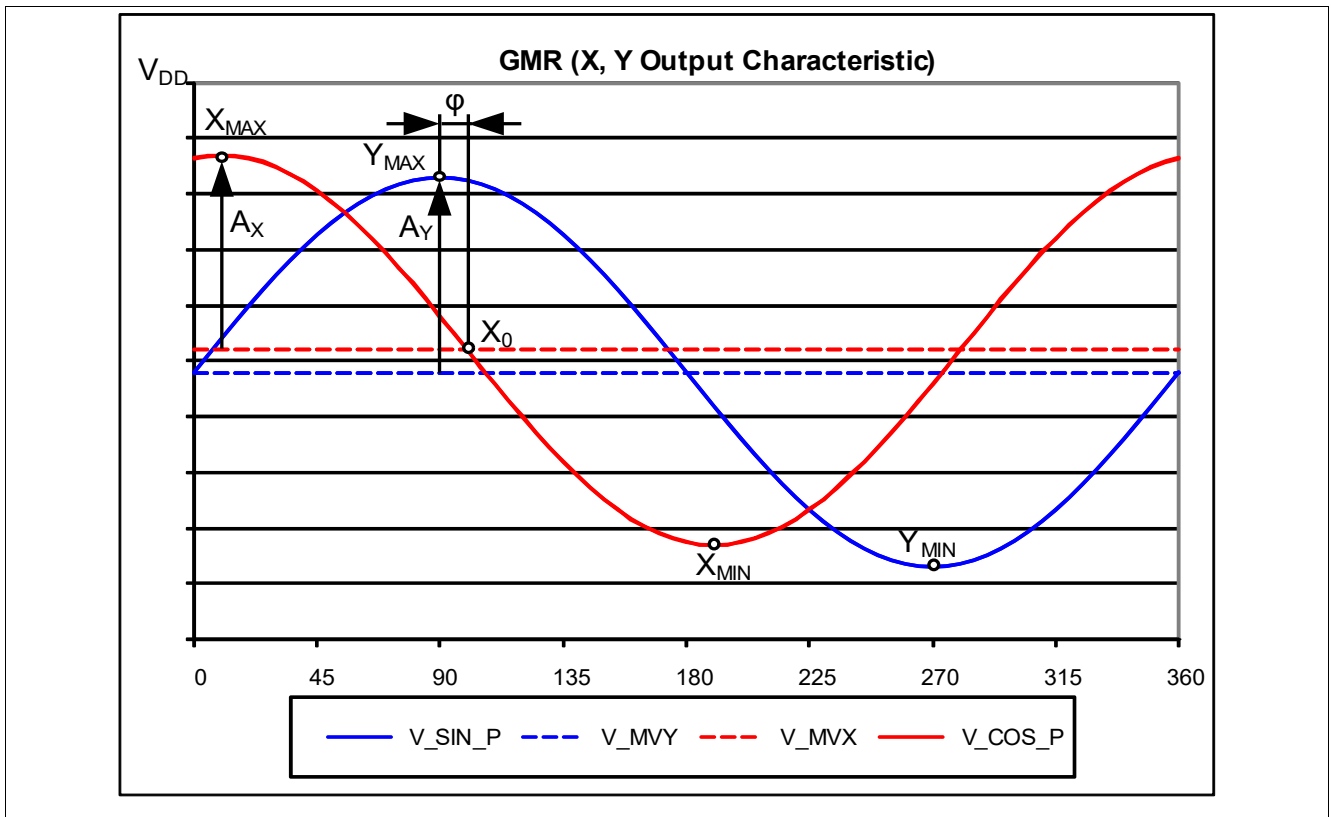
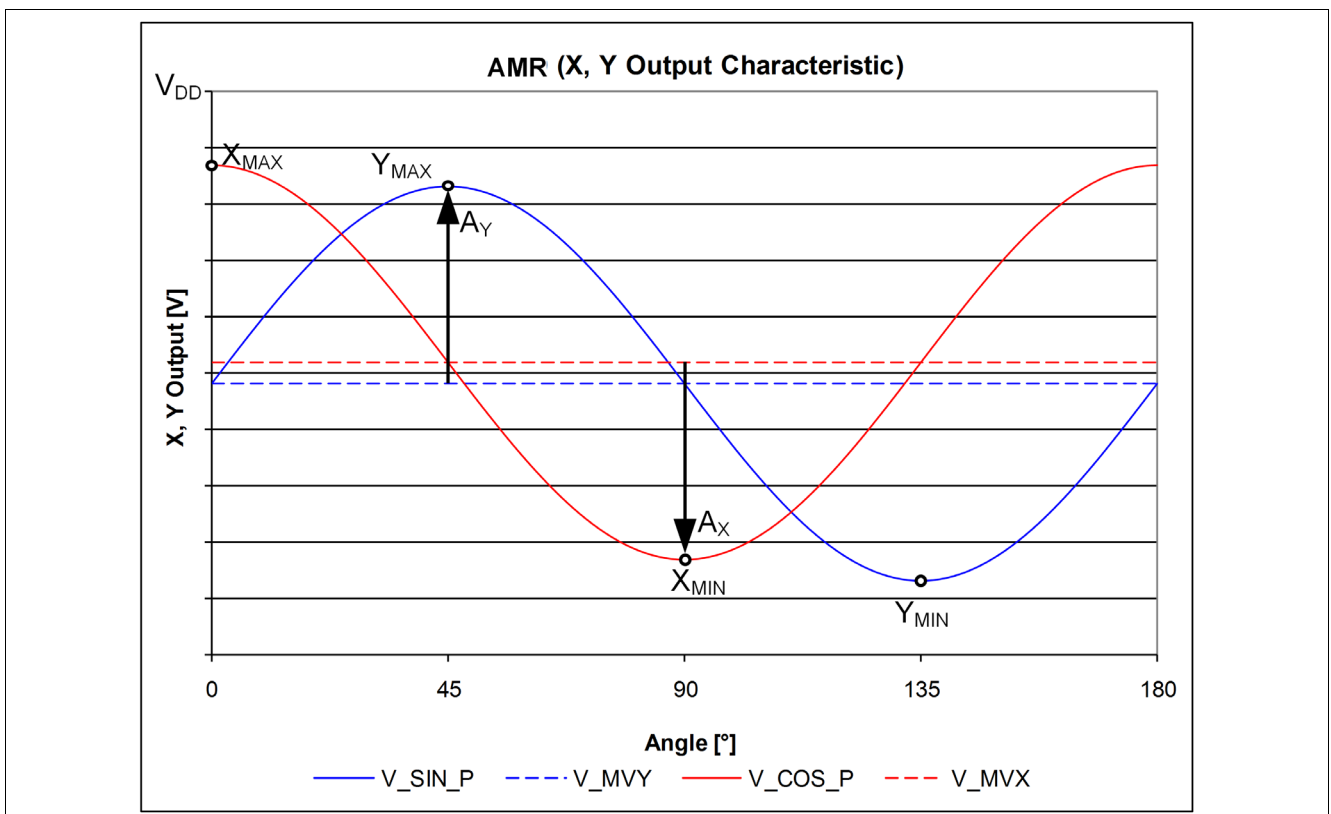
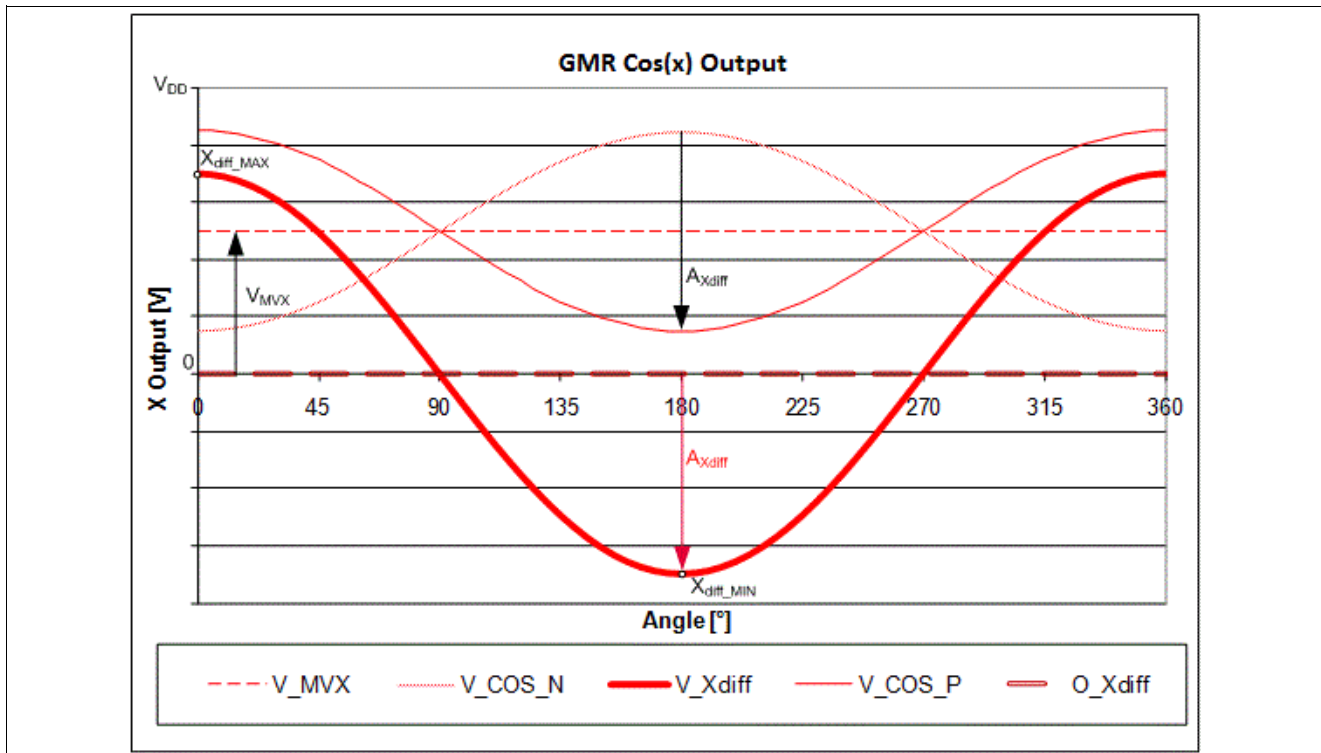

Figure 17 GMR sensor single-ended output signals
Figure 18 AMR sensor single-ended output signals
Figure 19 GMR differential output of ideal cosine
All parameters apply over the full operating range, unless otherwise specified. The parameters in **Table 9** refer to single pin output and **Table 10** to differential output. For variable names please refer to **Figure 17 “GMR sensor single-ended output signals” on Page 20** and **Figure 19 “GMR differential output of ideal cosine” on Page 21**.
1) V_{max} and V_{min} correspond to the voltage levels at X_{max} or Y_{max} and X_{min} or Y_{min} respectively as shown in **Figure 17, Figure 18**.